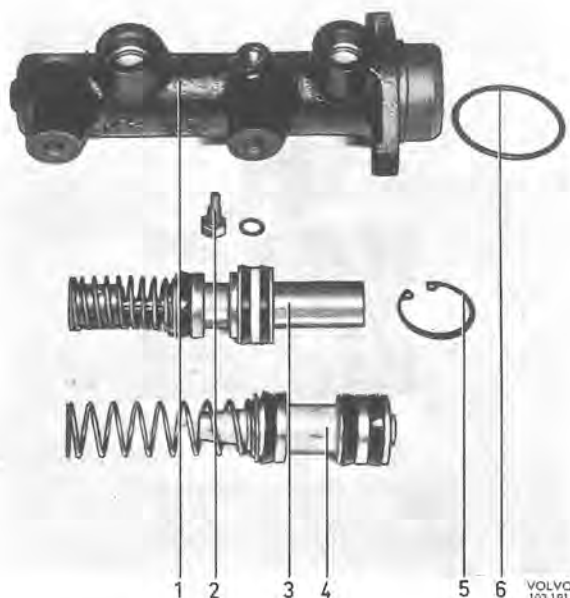

Fig. 5-48. Master cylinder disassembled
If wear on the cylinder or secondary piston is suspected, the diameter should be measured with a micrometer or indicator. The cylinder bore must not exceed 23.92 mm (0.942") and the diameter of the piston may not be less than 23.66 mm (0.931"). Each time reconditioning is carried out, replace the primary piston (3, Fig. 5-48) and the secondary piston (4, Fig. 5-48) complete as well as the stop screw (2) with washer and circlip (5), also the sealing ring (6). Moreover, the rubber seals (Fig. 5-46) for the container should be replaced.
4. Dip the piston and the seals in brake fluid and fit the piston in the cylinder, see Fig. 5-52. Press in the piston and fit the circlip (5, Fig. 5-48).
5. Check that the hole for the stop screw is clear and fit the screw (2, Fig. 5-48) with a new sealing washer. The tightening torque is 0.0—0.8 kpm (3.6—5.7 lb.ft.).